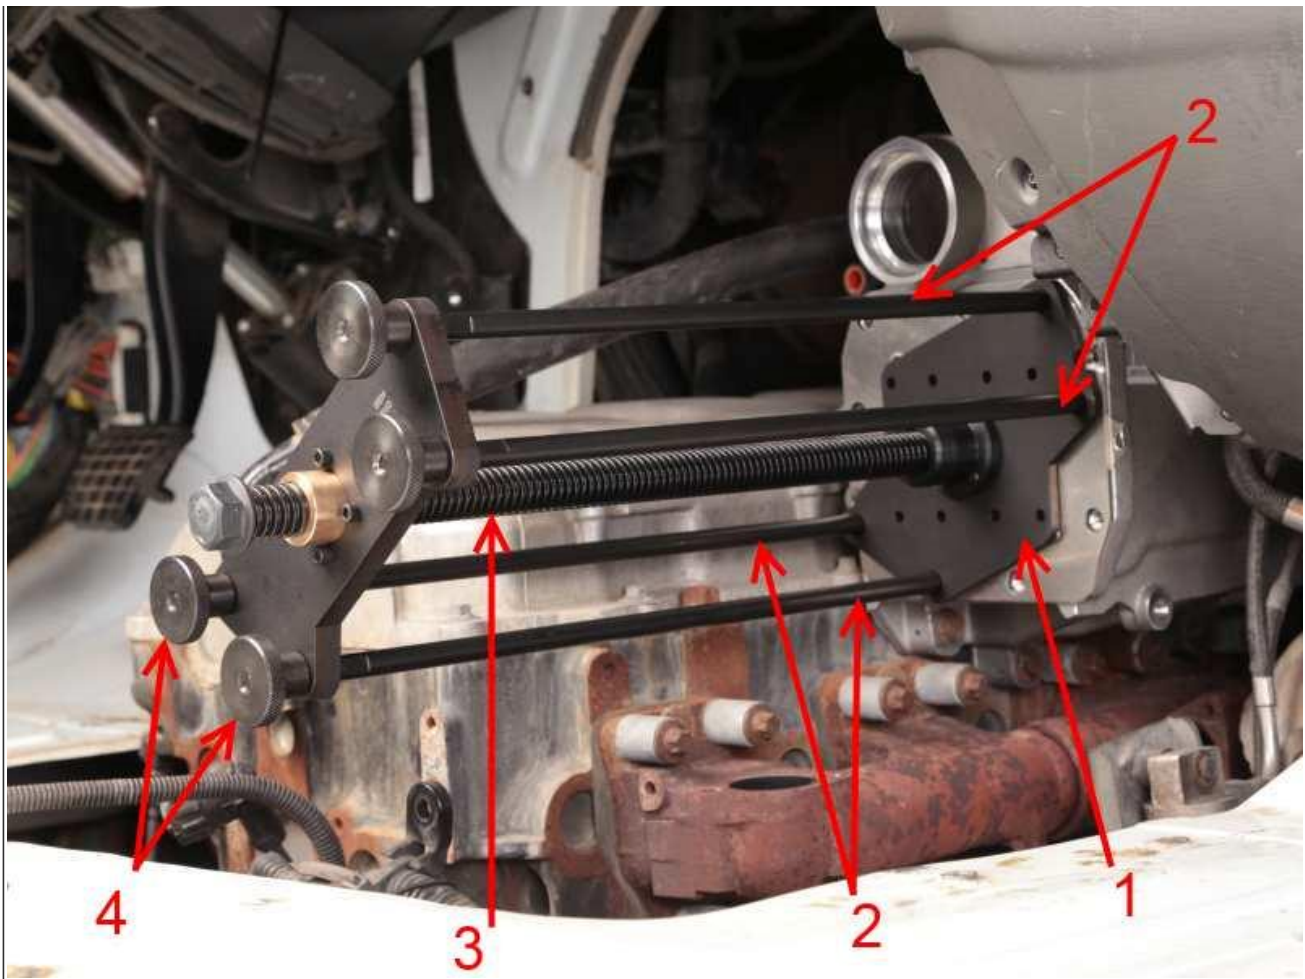

Figure 2: HT Core Removal Tool
a. Screw in the support rods in the two upper right, and lower, bottom left corner, holes (**Figure 2**, Item 2).
- c. Attach/tighten the thumb screws (**Figure 2**, Item 4).